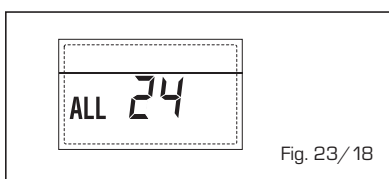

Fig. 23/18
- **SOLAR PROBE ANOMALY STORAGE TANK (S2) "ALL 25" (fig. 23/19)**